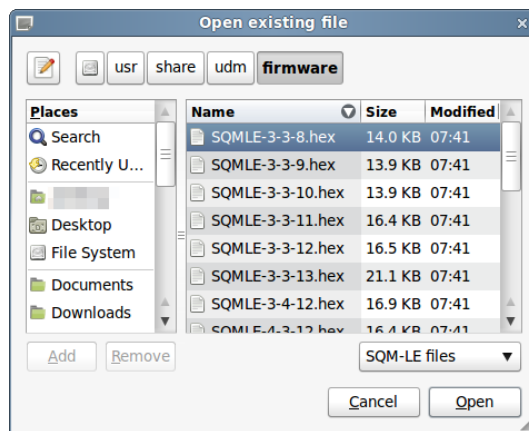

Figure 7.44: Firmware selection
1. Press the “Select Firmware” button to choose the firmware file to load in to the SQM as shown in Figure 7.44: